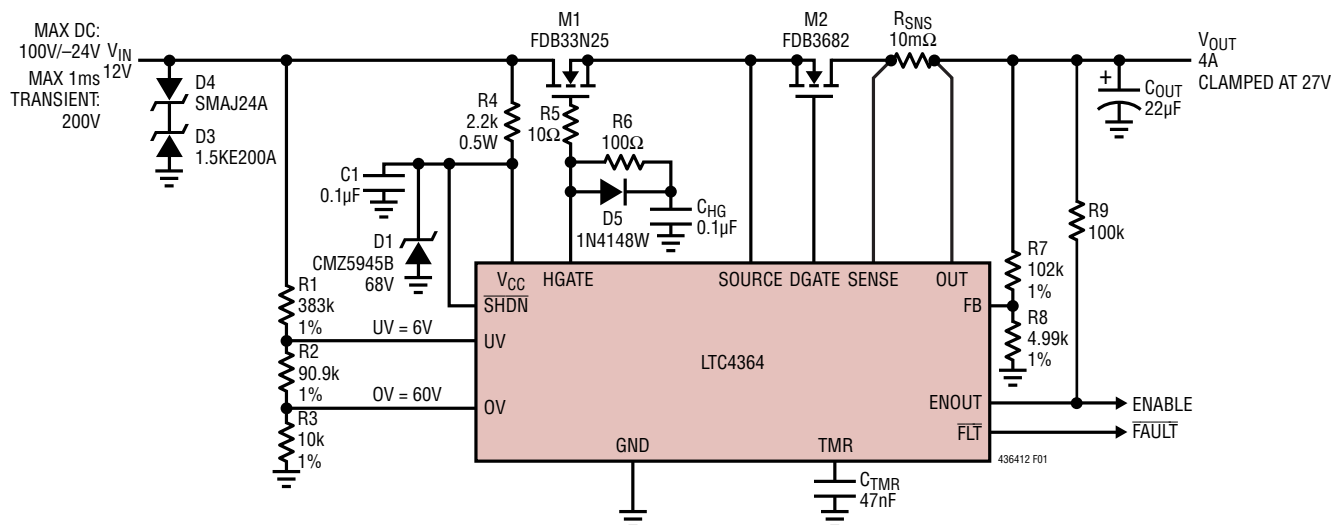
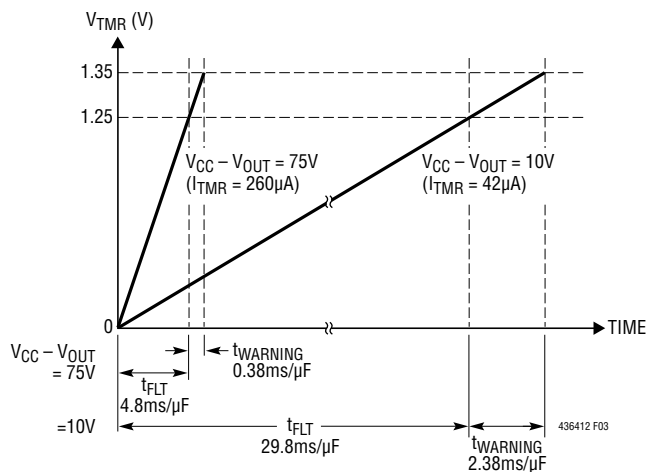

Figure 1. 4A, 12V Overvoltage Output Regulator with Reverse Current Protection
**Figure 2. External UV and OV Configuration Blocks Start-Up Into an Overvoltage Condition**
**$\Delta V_{HGATE}$  vs  $V_{IN}$  in Figure 1**
**$\Delta V_{DGATE}$  vs  $V_{IN}$  in Figure 1**
The LTC4364 drives an N-channel MOSFET (M1) at the HGATE pin to limit the voltage and current to the load circuitry during supply transients or overcurrent events. The selection of M1 is critical for this application. It must stay on and provide a low impedance path from the input supply to the load during normal operation and then dissipate power during overvoltage or overcurrent conditions. The LTC4364 also drives a second N-channel MOSFET (M2) at the DGATE pin as an ideal diode to protect the load from damage during reverse polarity input conditions, and to block reverse current flow in the event the input collapses. A typical application circuit using the LTC4364 to regulate the output at 27V during input surges with reverse input protection is shown in Figure 1.
Input overvoltage is detected with the OV pin and an external resistive divider connected to the input (Figure 1). At power-up, if the OV pin voltage is higher than its 1.25V threshold before the 100 $\mu\text{s}$  internal power-on-reset expires, or before the input undervoltage condition is cleared at the UV pin, the HGATE pin will be held low until the OV pin voltage drops below its threshold. To prevent start-up in the event the board is hot swapped into an overvoltage supply, separate resistive dividers with filtering capacitors can be used for the OV and UV pins (Figure 2). The RC constants should be skewed so that  $\tau_{\text{UV}}/\tau_{\text{OV}} > 50$ . In Figure 2, if the board is plugged into a supply that is higher than 60V, the LTC4364 will not turn on the pass devices until the supply voltage drops below 60V.
The LTC4364 detects input undervoltage conditions such as low battery using the UV pin. When the voltage at the UV pin is below its 1.25V threshold, the HGATE pin pulls low to keep the pass device off. Once the UV pin voltage rises above the UV threshold plus the UV hysteresis (50mV typical), the HGATE pin is allowed to pull up without going through a timer cycle. In Figure 1 and Figure 2, the input UV threshold is set by the resistive dividers to 6V. An undervoltage condition does not produce an output at the  $\overline{\text{FLT}}$  pin.
The LTC4364 drives two N-channel MOSFETs, M1 and M2, as the pass devices to conduct the load current (Figure 1). The important features are on-resistance,  $R_{\text{DS(ON)}}$ , the maximum drain-source voltage,  $V_{(\text{BR})\text{DSS}}$ , the threshold voltage, and the safe operating area, SOA (for M1).
The added gate capacitor slows down the turn-off time during fault conditions and allows higher peak currents to build up during an output short event. If this is a concern, an extra resistor, R6, in series with  $C_{HG}$  can restore the turn-off time. A diode, D5, should be placed across R6 with the cathode connected to  $C_{HG}$  as shown in Figure 1. In a fast transient input step, D5 provides a bypass path to  $C_{HG}$  for the benefit of holding HGATE low and preventing self enhancement.
The LTC4364 is tested to operate to 80V and guaranteed to be safe from damage between 100V and –40V. Voltage transients above 100V or below –40V may cause permanent damage. During a short-circuit condition, the large change in current flowing through power supply traces coupled with parasitic inductances from associated wiring can cause destructive voltage transients in both positive and negative directions at the  $V_{CC}$ , SOURCE, and OUT pins. To reduce the voltage transients, minimize the power trace parasitic inductance by using short, wide traces. A small RC filter (R4 and C1 in Figure 1) at the  $V_{CC}$  pin filters high voltage spikes of short pulse width.
Another way to limit supply transients above 100V at the  $V_{CC}$  pin is to use a Zener diode and a resistor, D1 and R4, as shown in Figure 1. D1 clamps voltage spikes at the  $V_{CC}$  pin while R4 limits the current through D1 to a safe level during the surge. In the negative direction, D1 along with R4 clamps the  $V_{CC}$  pin near GND. The inclusion of R4 in series with the  $V_{CC}$  pin increases the minimum required supply voltage due to the extra voltage drop across the resistor, which is determined by the supply current of the LTC4364 and the leakage current of D1. 2.2k adds about 1V to the minimum operating voltage.
For sustained, elevated supply voltages, the power dissipation of R4 in Figure 1 becomes unacceptable. This can be resolved by using an external depletion mode N-channel MOSFET to replace R4 (M1 in Figure 7a) or using an external NPN transistor (Q1 in Figure 7b) as a buffer. To protect Q1 against supply reversal, block the collector of Q1 with a series diode or tie it to the cathode of D3 and D4 in Figure 1.
Transient suppressor D3 in Figure 1 clamps the input voltage to 200V for voltage transients higher than 200V, to prevent breakdown of M1. It also blocks forward conduction in D4. D4 limits the SOURCE pin voltage to 24V below GND when the input goes negative.  $C_{OUT}$  helps absorb the inductive energy at the output upon a sudden input short, protecting the OUT and SENSE pins.